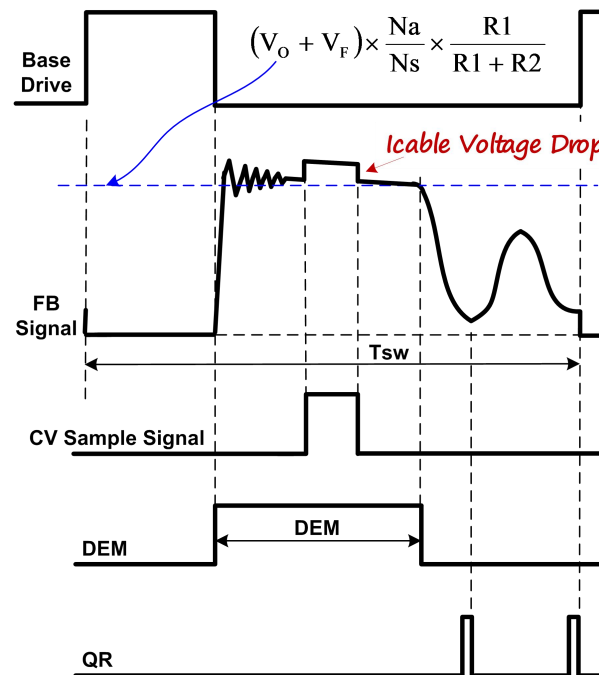

Fig.2
In Primary Side Regulation (PSR) control, the output voltage is sensed on the auxiliary winding during the transfer of transformer energy to the secondary. Fig.2 illustrates the timing waveform of CV sampling signal, demagnetization signal (DEM) and quasi-resonant (QR) trigger signal in DP3772. When the CV sampling process is over, the internal sample/hold (S&H) circuit captures the error signal and amplifies it through the internal Error Amplifier (EA). The output of EA is sent to the Quasi Resonant PSR CV Modulator (QR-CVM) for CV regulation. A valley is selected to trigger new PWM cycle by the output of the QR-CVM block, which is determined by the load. The internal reference voltage for EA is trimmed to 2V with high accuracy.
demagnetization process, as shown in Fig.2. Fig.2 also illustrates the equation for “demagnetization plateau”, where Vo and VF is the output voltage and diode forward voltage; R1 and R2 is the resistor divider connected from the auxiliary winding to FB Pin, Ns and Na are secondary winding and auxiliary winding respectively.